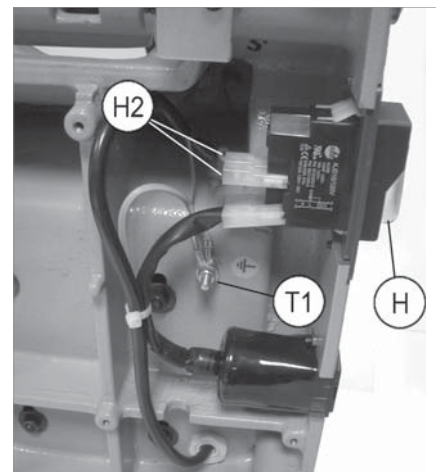

Fig. 52
- 2) Disconnect the 2 connectors (H2). Loosen the nut (T1) and disconnect the earthing (ground) wire (Fig. 52).